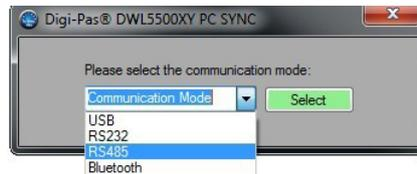

Figure 18. Shortcut of the DWL5`00XY PC SYNC
1. Assuming steps stated in 3.1 Configuration of Single Tilt Sensor Module with Converter and 4.1 Installation of the DWL5x00XY PC Sync Software have been done in this stage. Open PC SYNC software and select RS485 from the drop down menu as shown in Figure 18.